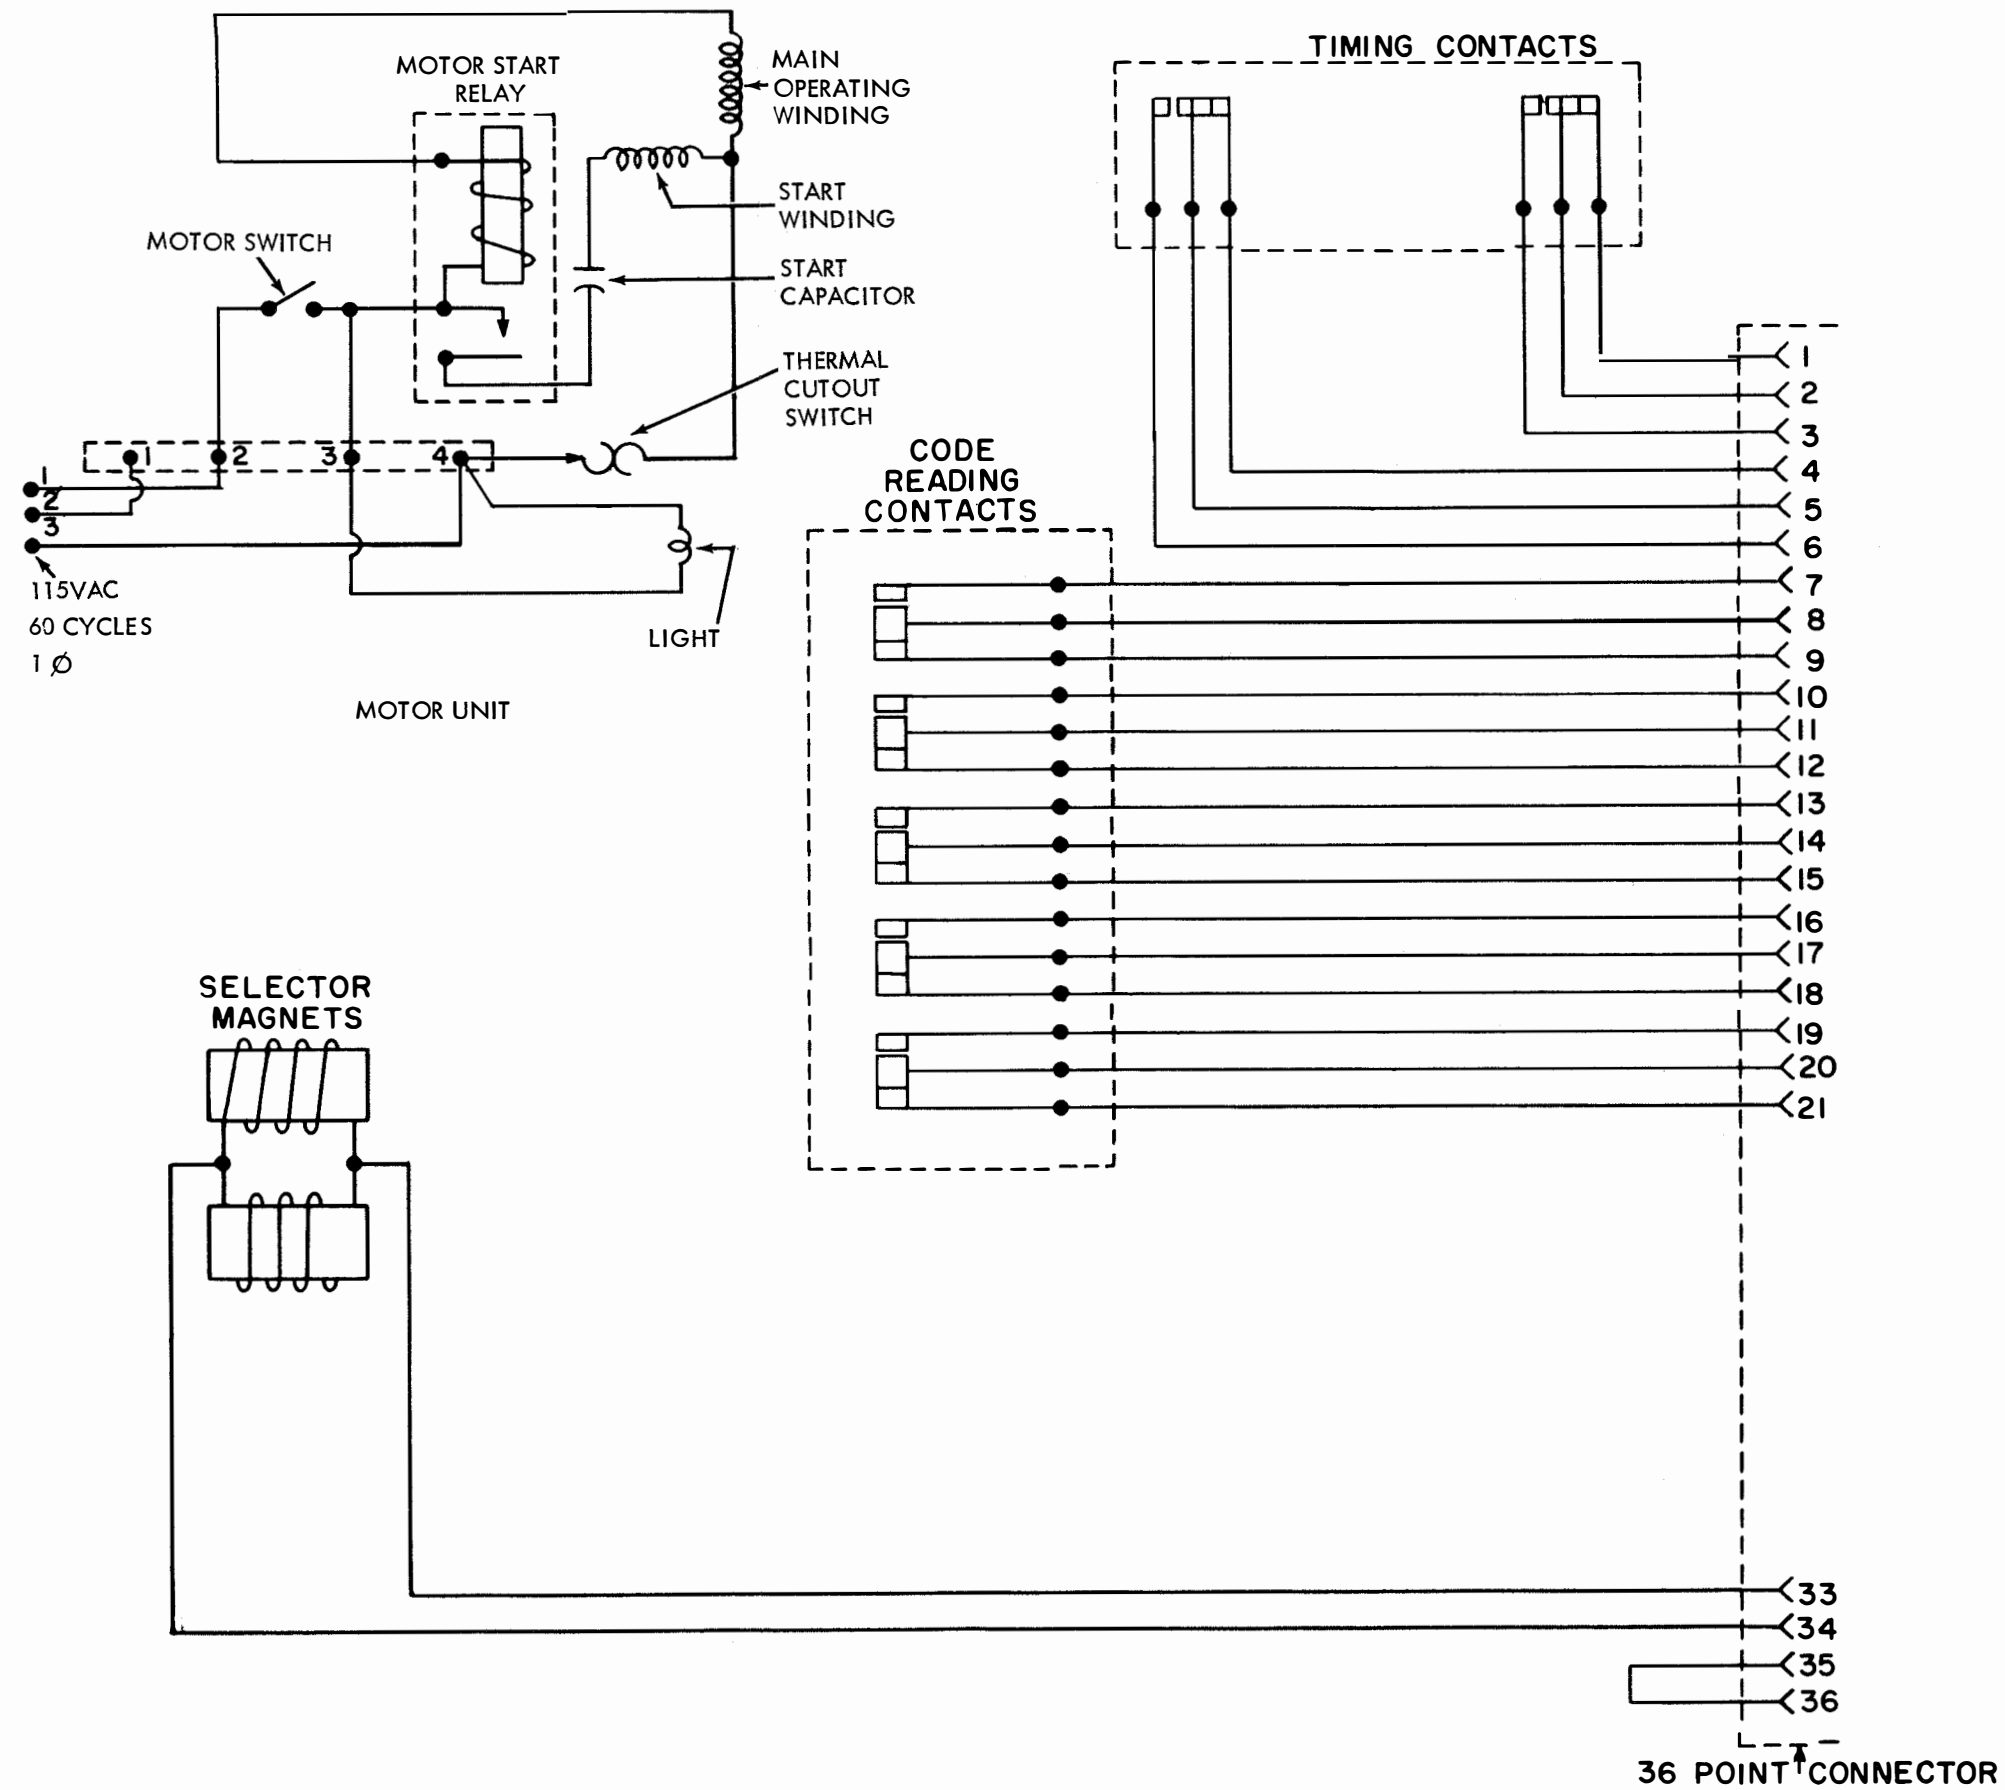

Fig. 6-10. Auxiliary Winding Circuit, Schematic Diagram
(1) The initial starting current causes the start relay to pull up, and its contacts to close the auxiliary winding circuit (see Figure 6-10). As the rotor gains speed, the current flowing through the relay coil decreases. When a predetermined current value is reached the relay armature is released, the relay contacts are opened, and the auxiliary winding circuit is disconnected from the line. The rotor continues to accelerate until it reaches synchronous speed (3600 RPM). The motor is wired in such a manner that the shaft rotates in a clockwise direction when viewed from the pinion end. (Refer to paragraph 1-7. e. for detailed technical data.)